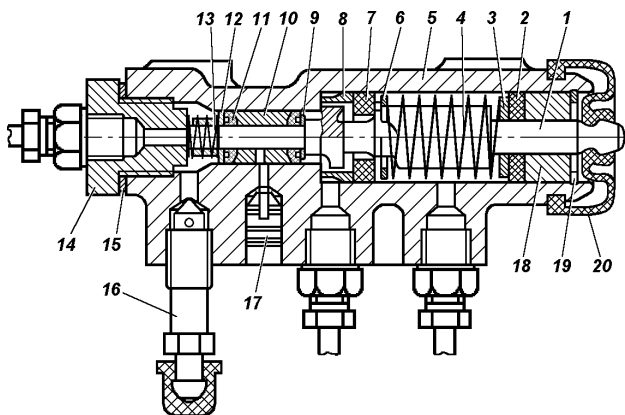

Fig. 68. Pressure Regulator:
When maintaining the hydraulic steering system, pay attention to the stopper 17 (Fig. 68) and check, if there is no leakage of brake fluid from under it. The plug in its service condition must be flushed with the opening of the regulator body against the stop. If the stopper is extended above the opening, and brake fluid leaks, repair or replace the regulator.
3. Screw the bolt 4 until it touches the regulator piston 1 (Fig. 68), draw the bolt tight through 2/3 of a turn (4 bolt flats) and tighten the lock nut.